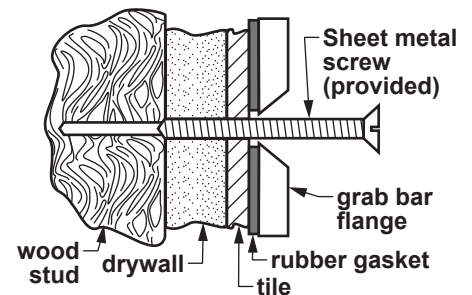

Figure 3:
See figure 3. Drill 1/4" diameter hole *only* through tile with masonry bit, then drill 1/8" diameter approximately 1 3/4" deep through drywall and into wood stud.
- b. Sheet metal screw mount (into wood stud) on untiled wall:** See figure 3. Drill 1/8" diameter approximately 1 3/4" deep through outer wall, drywall, and into wood stud.
2. Attach grab bar and rubber gaskets to wall using appropriate mounting hardware as indicated in Figures 3 and 4. Install first one flange, then the other. Do not tighten completely until both flanges are installed. If installing toggle bolts, install them before sheet metal screws.